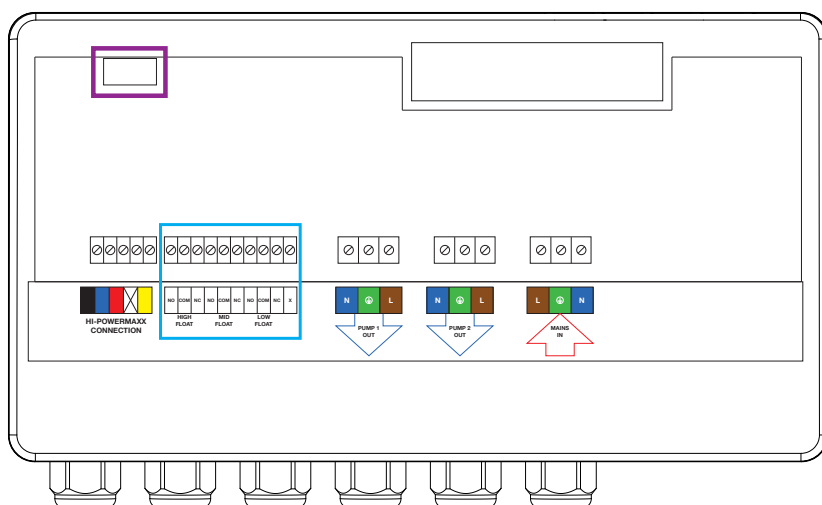

Figure 4. Wiring a float switches
3. Connect all three cables from each float switch cable to the terminal blocks (figure 4). **Use the internal wiring sticker for further guidance.**
See the highlighted area in **PURPLE** on figure 4 (page 11) for terminal block location.